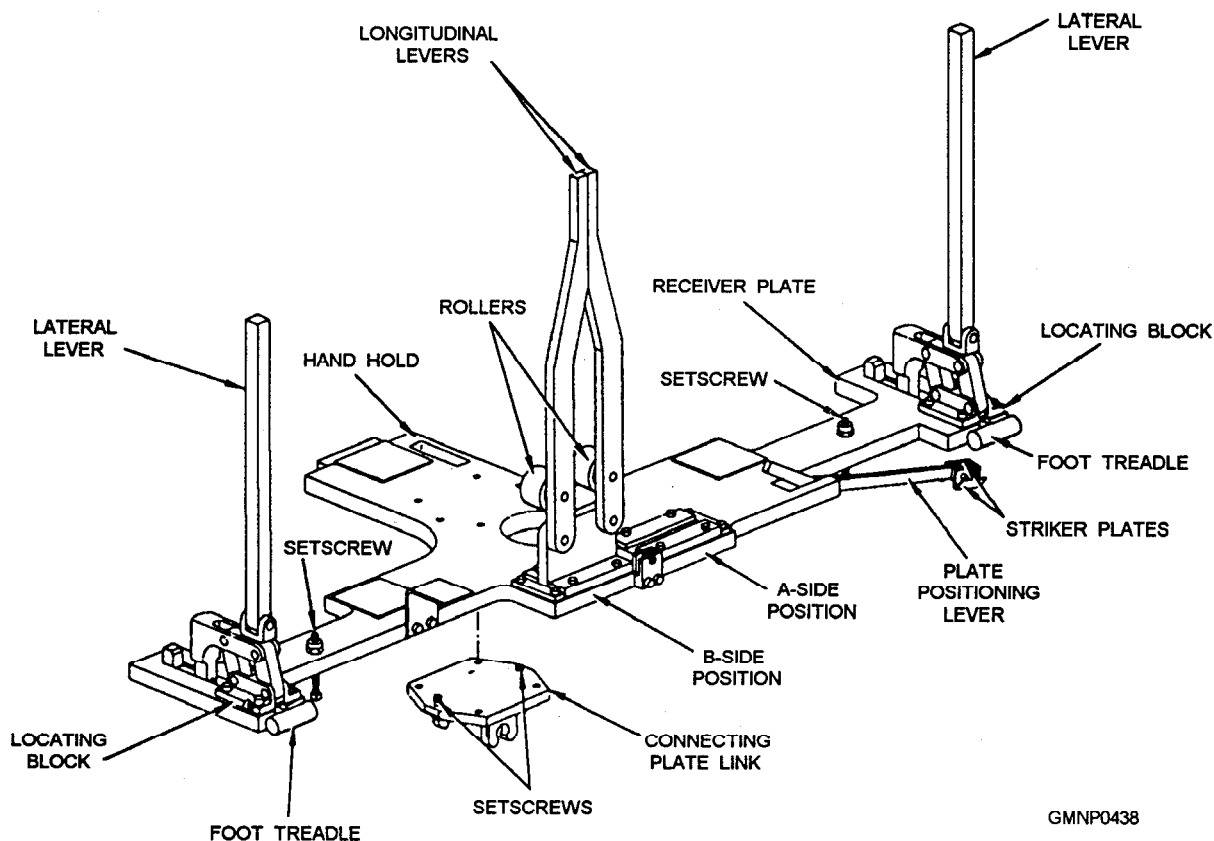

Figure 8-12.—ASW container receiver plate.
**ASW HANDLING EQUIPMENT.**— ASW-type missiles are shipped to a Mk 26 GMLS in Mk 183 shipping containers (instead of transfer dollies). A special piece of equipment is used to transfer an ASW missile between its shipping container and the strikedown beam. This device is called the ASW container receiver plate (fig. 8-12). The ASW receiver plate is secured to the receiver piston. It also has some degree of floating movement to aid in missile shoe alignment.